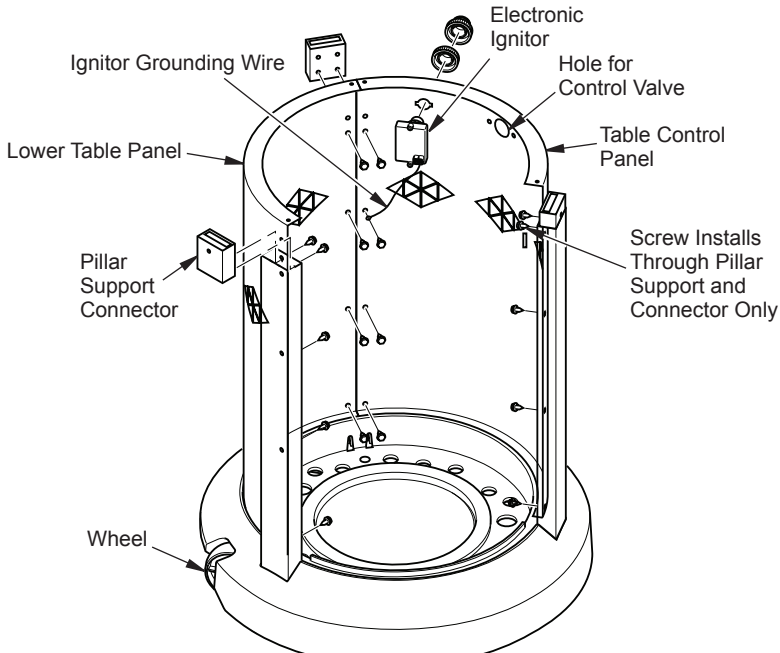

Figure 4 - Attaching Side Panels and Ignitor
2. Position lower table panel and table control panel onto base assembly as shown in Figure 4. Make certain lower table panel is on side of base with wheels. Using bottom 3 sets of holes only, attach panels to support pillars with 12 screws (C) (see Figure 4). Attach ignitor ground wire with 1 screw as shown in Figure 4 (ignitor installed in step 4).
3. Top sets of screws (C) will insert through panels, through support pillars, then into pillar support connectors as shown in Figure 4 (6 screws). Make sure pillar support connectors are oriented as shown in Figure 4. The side of connectors with one hole should be facing outside heater and hole should be at the top. For support connectors closest to front opening, second screw will only install through panels and support connectors. Second screw will secure connector (see Figure 4).
4. Install electronic ignitor through control panel as shown in Figure 4. Screw retainer ring and ignitor cap on from outside panel. Attach ignitor ground wire to ignitor.